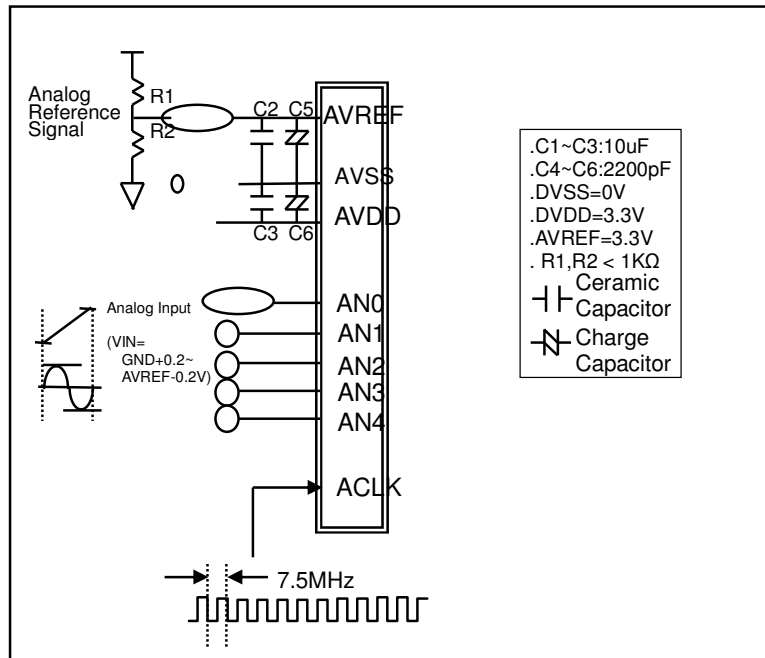

Figure 13.3 Example of Analog Input Circuit
**Note on Noise:** To prevent damage from surges and other abnormal voltages at the analog input pins ( $AN_0$  to  $AN_4$ ) and analog reference voltage pin ( $V_{REF}$ ), connect a protection circuit like the one in **Figure 13.3** between  $AV_{CC}$  and  $AV_{SS}$ . The bypass capacitors connected to  $AV_{CC}$  and  $V_{REF}$  and the filter capacitors connected to  $AN_0$  to  $AN_4$  must be connected to  $AV_{SS}$ .